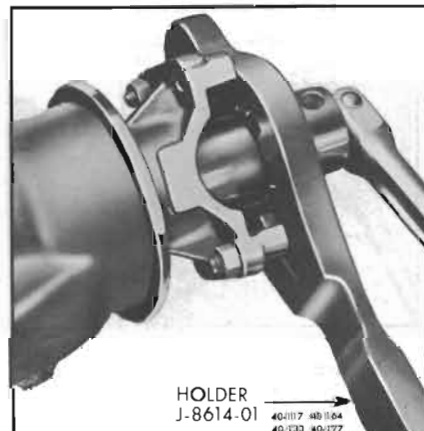

Figure 40-177—Installing Pinion Nut
8. Install pinion washer and nut. Hold pinion flange with Holder J-8614-01. While intermittently rotating pinion to seat bearings, tighten pinion nut until end play begins to be taken up. See Figure 40-177.